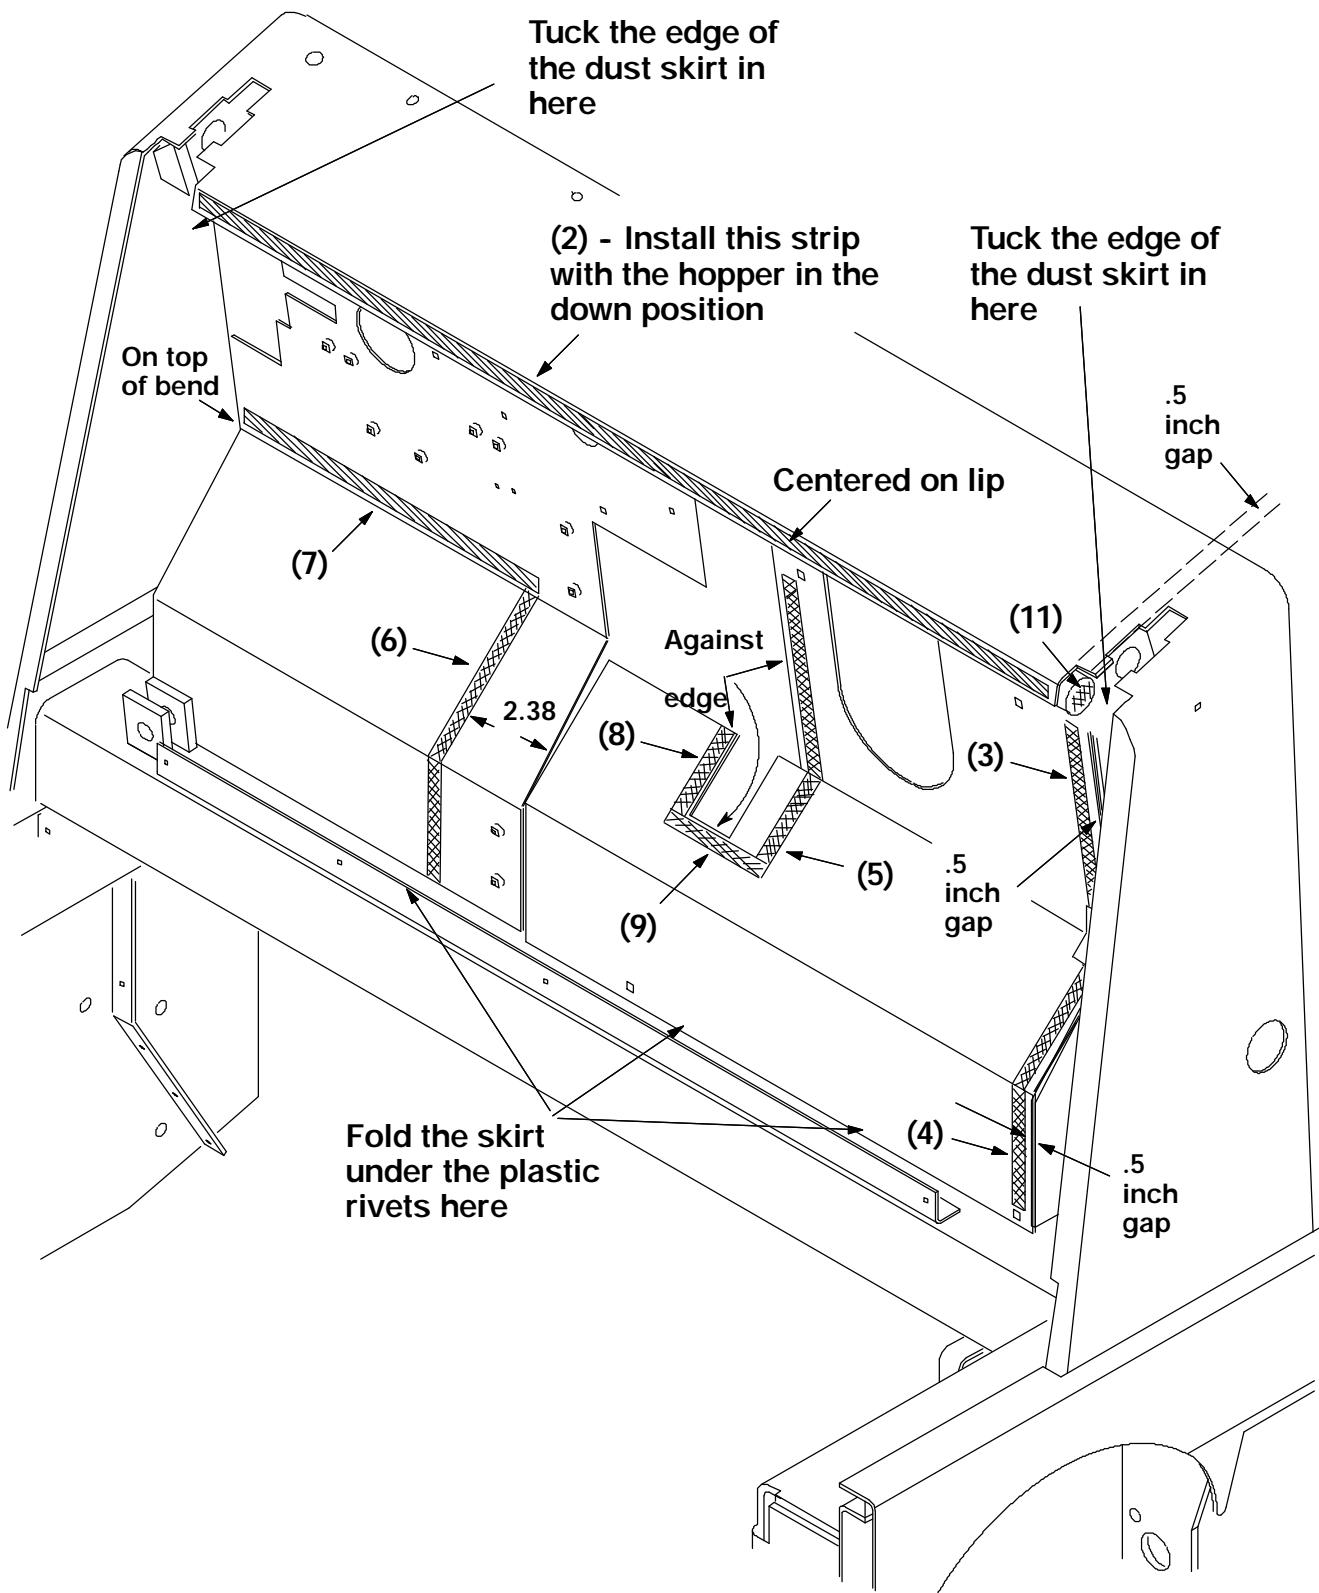

FIG. 1 - Velcro Strip Locations
(Refer to FIG. 1)
2. The area around the machine lintel, front wall, and steel front panel must be cleaned before the Velcro strips are attached. Use a high pressure sprayer to clean the dust and dirt. After the dust and dirt have been cleaned, use mineral spirits or paint thinner to clean any oil or grease residue around this same area. (Refer to FIG. 1)
1. After the dust skirt area has been thoroughly cleaned, use the dimensions in the following figure to measure and install the Velcro strips. **Note: install strip (2) with the hopper in the down position.** (Refer to FIG. 1)
NOTE: Use firm pressure when applying the sticky-back Velcro to the machine. (Refer to FIG. 1)
6. Make sure to tuck both outside edges of the dust skirt (1) to the inside of the lift arm towers. This is to insure the lift arms can be lowered without the edge of the skirt getting in the way. (Refer to FIG. 1)
7. Disengage the prop arm and lower the hopper. Make sure the dust skirt (1) is not being pulled down by the hopper or getting pinched. The dust skirt should be in place all along the Velcro on the front edge of the lintel.
8. Position the steel strip (12) across the front of the lintel, over the top of the dust skirt (1) and the Velcro strip (2). The curved side of the steel strip (12) should be pointing up--to match the curve of the lintel. Make sure the steel strip (12) is centered on the lintel--do not allow the strip to over hang either side of the lintel.